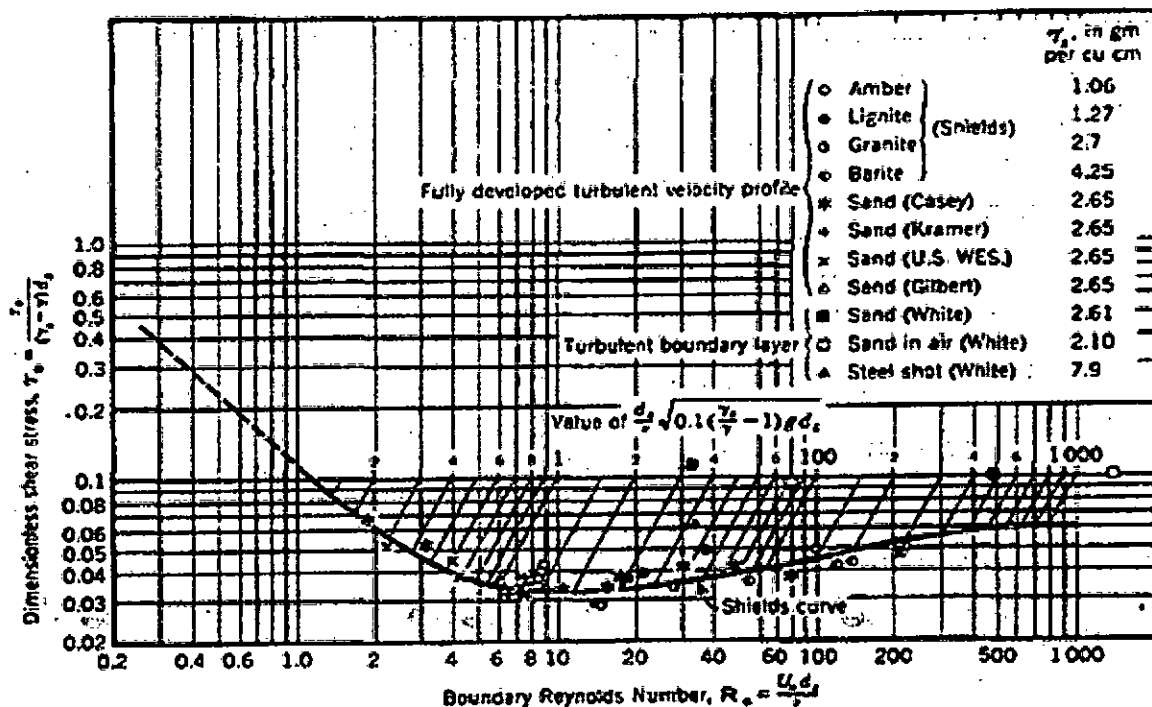

Figure 3: For question 3(b)
3. (a) List the main causes of failure of an earthen embankment with sketches. (8)
(b) For a wide river, determine the maximum depth for which scour of the bed material can just be prevented. The river bed material has a median size of $(2.5+0.0001 \cdot R)$ mm non-cohesive material and it is laid on a slope of 0.0005. Here, R is the last 3 digits of your student ID. Assume reasonable data if necessary. Use Figure 3 for your calculation. (12)